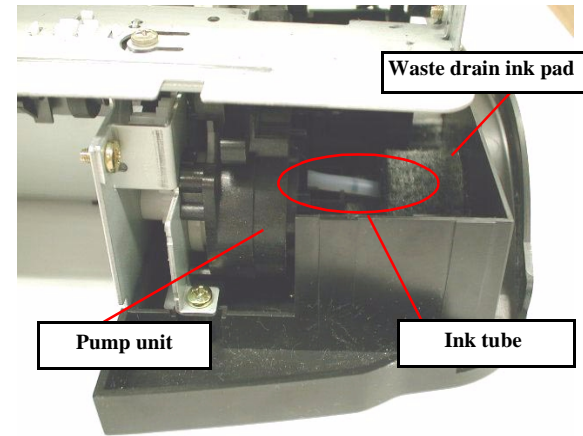

Figure 4-19. Drain ink tube setting position
- When assembling the Waste drain ink pad unit, be sure to set the tip of the waste ink tube in the suitable position of the Waste drain ink pad. Refer to the Figure 4-19